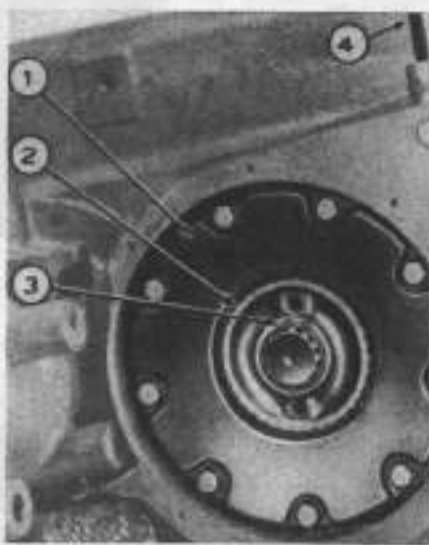
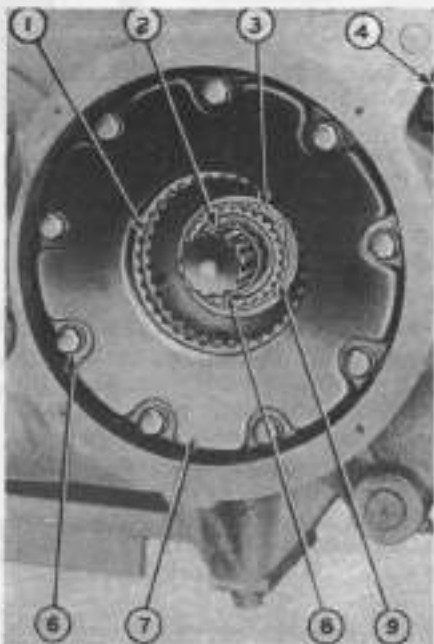
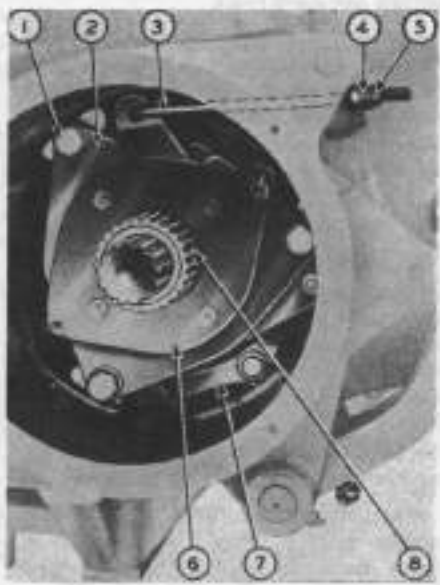

Fig. MH424—Series 44 live power take-off clutch view with the housing cover removed.
Fig. MH425—Series 44 live power take-off clutch view with the housing cover and adapter gear removed.
Fig. MH425A—Series 44 power release view after clutch assembly is removed.
311. **CLUTCH (CONTINUOUS TYPE) OVERHAUL.** To remove the clutch assembly and the power release mechanism, first remove the right hand fender and platform and remove cover from clutch housing. Extract snap ring (3—Fig. MH424) and withdraw adapter gear (2). Remove snap ring (3—Fig. MH425) and withdraw clutch assembly from housing. Remove snap ring (24—Fig. MH426) and disconnect rod (3—Fig. MH425A). Remove cap screws (1) and withdraw the power release mechanism.